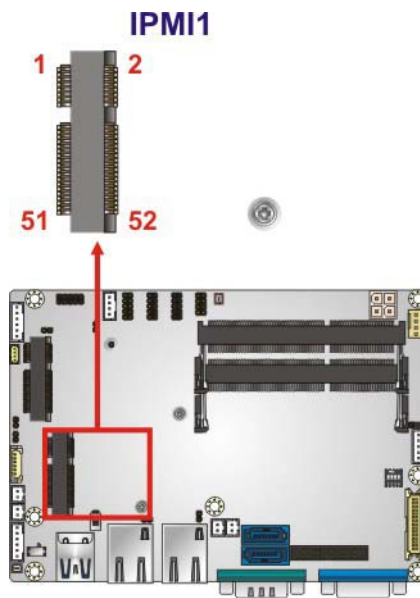

Figure 3-12: iRIS Module Slot Location
- CN Location:** See **Figure 3-12**